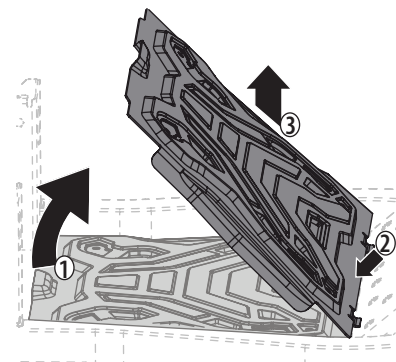

Figure 39
1. Carefully lift the rear of the floor panel. See 1 in Figure 39.
2. Slide the floor panel rearward to free the front of the floor panel. See 2 in Figure 39.
3. Lift it off the tractor. See 3 in Figure 39.